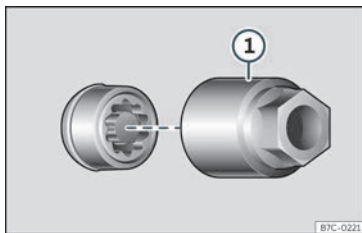

Fig. 36 Anti-theft wheel bolt with cap and adapter.
- Insert the special adapter»» Fig. 36 ① (vehicle tools»» page 43) onto the anti-theft wheel bolt and push it on as far as it will go.